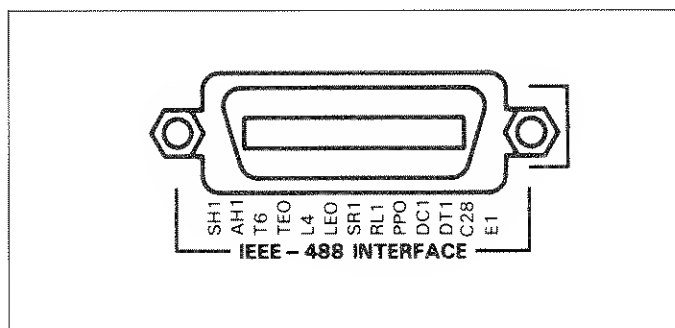

Figure 3-7. Model 740 IEEE-488
1. Line up the connector on the cable with the connector on the rear panel of the instrument. See Figure 3-7 for connector location.